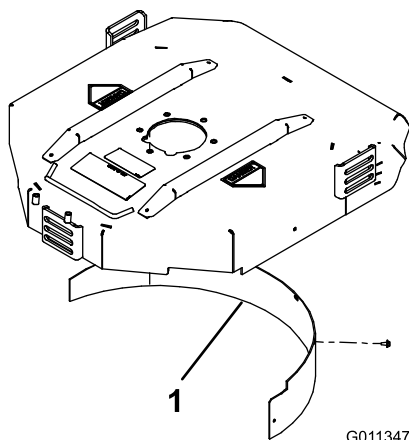

Figure 11
- Install the mulching baffle in the rear opening and secure it with 5 flange head bolts (Figure 11).